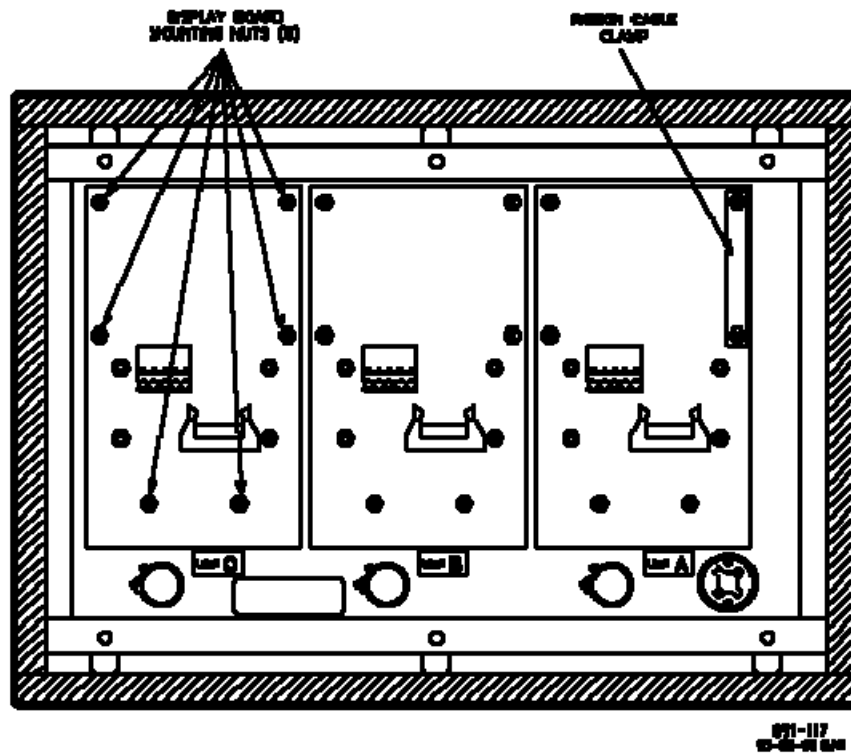

Figure 5-4. Display Boards
10. Remove the six nuts holding the display board to the ProTech system chassis front door. Note the nuts' locations in Figure 5-4 so that you don't loosen the 4 nuts that attach the LCD (display) to the circuit board.
1. Insert and position the new display board in place (Figure 5-4).